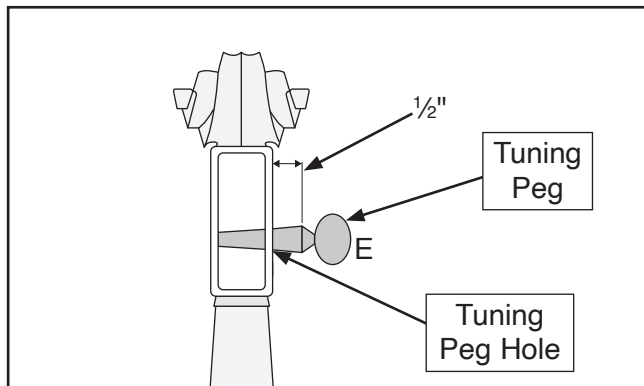

Figure 9. Test fitting tuning peg.
The tuning pegs have been sized at the factory, and the tuner holes have been pre-drilled. However, some minor adjustments to the holes may be needed to ensure the pegs fit properly. The correct arrangement for installing the tuning pegs is shown below in **Figure 9**.
1. Test fit (1) tuning peg into E-string tuning peg hole (see **Figure 9**).